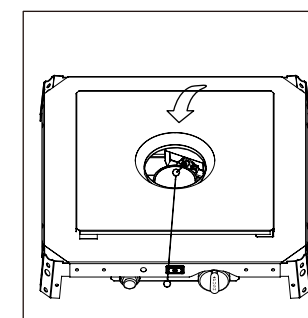

Figure 4
- As you are depressing the control knob, place long stem lighter(NN) through the glass tube to light the pilot (Figure 4).